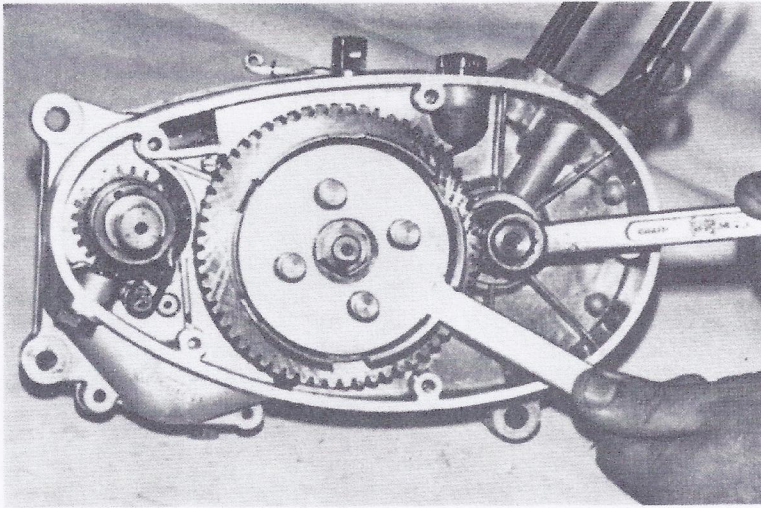

FIGURE 6 - How to remove the engine sprocket nut, using tool U2-6.
- 11) Remove the four clutch spring and disk compressing screws. Using the special wrench U2-6 (see figure 6), remove the engine sprocket nut with 14 mm. wrench.